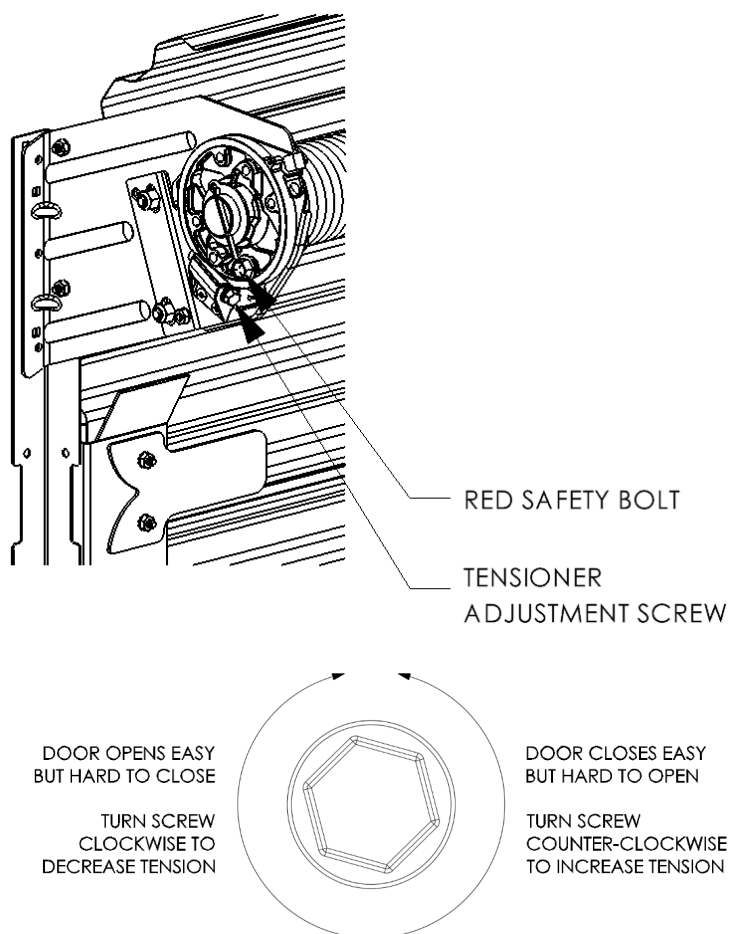

figure 9
- ✦ Re-insert the red safety bolt with the 7/16" nut driver as shown in **Figure 9**.